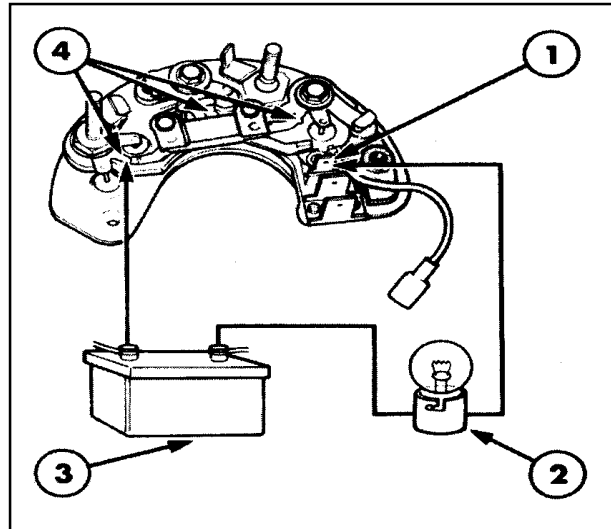

Figure 22
1. Connect a 12 volt battery and a 2.2 watt test lamp in series with the field diode module. Apply the negative test lead to the "IND" terminal and the other lead in turn to each of the field diode module connections. Figure 22.